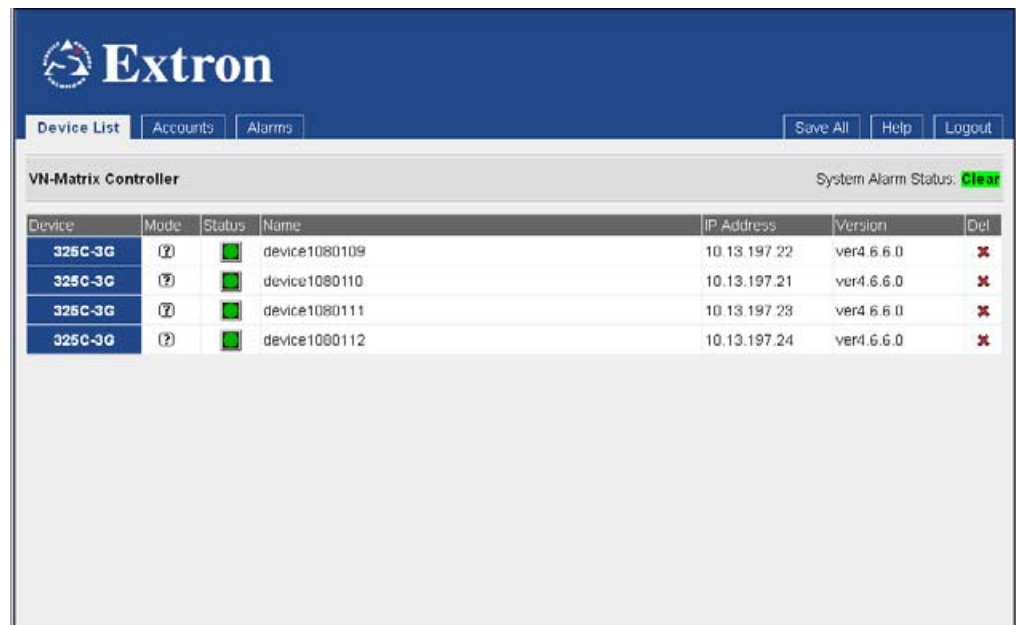

Figure 16. Device List Page
5. Click the **LOG IN** button or press <Enter> on the keyboard. The VNC 325 HTML page opens to the Device List page (see figure 16). The web page lists all VN-Matrix devices that are connected to the system controller.